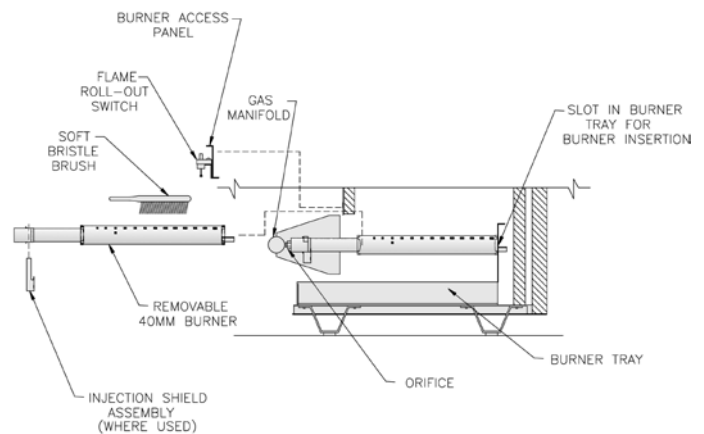

Figure 23: Burner Cleaning and Installation
2. Brush top of burners with a soft bristle brush. See Figure 23. Vacuum burners.
Check burners to see that they are located properly in slot at rear of burner tray, see Figure 23. Reinstall injection shield assembly (40mm burners only, where used) and burner access panel. Reconnect flame roll-out switch wires, pilot gas supply, thermocouple lead or pilot lead.